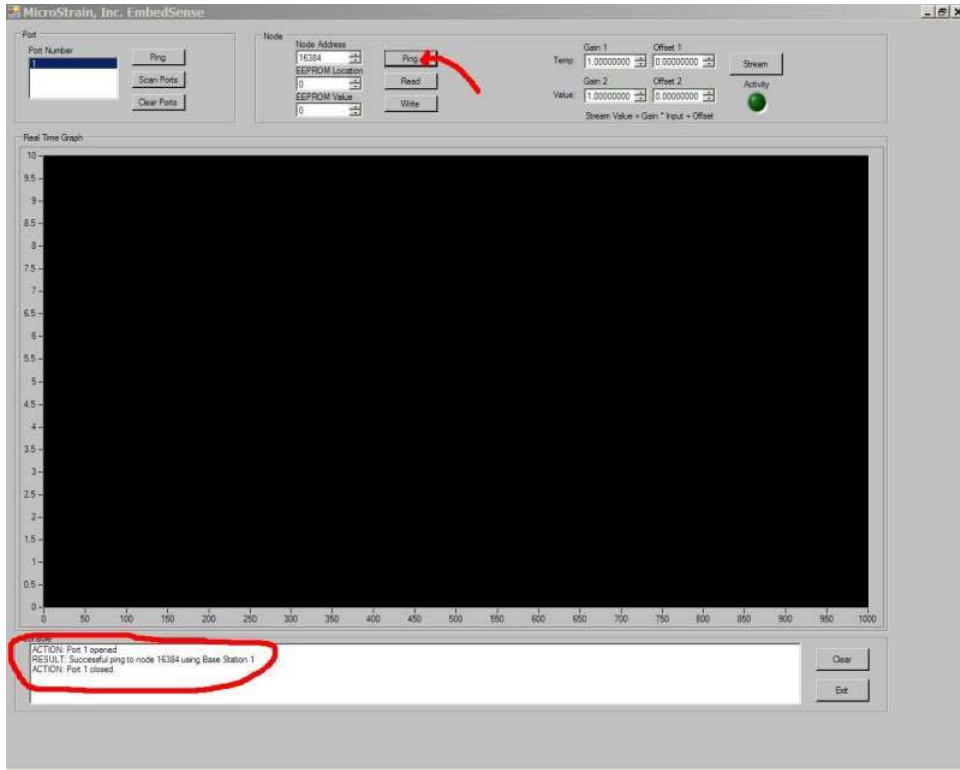

Figure 2
- Look for a successful ping message in the Console frame. See Figure 2.